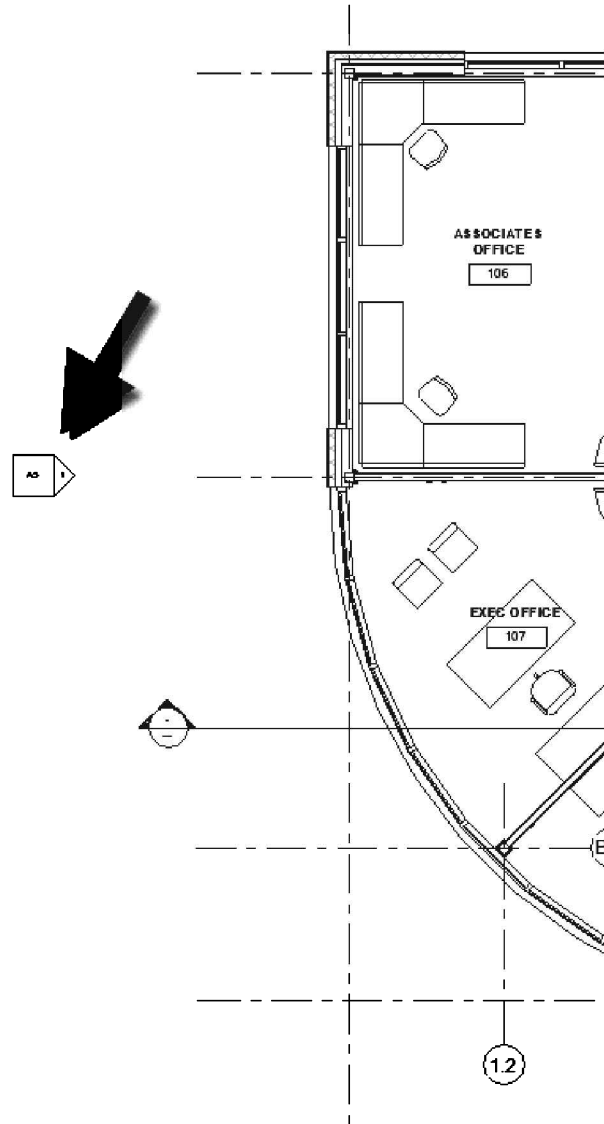

FIGURE 16-1.9
23. Switch to **Level 1** (see Figure 16-1.9).
Notice in Figure 16-1.9 that the number A5 represents the sheet number that the drawing can be found on. The number 1 (one) is the drawing number to look for on sheet A5.
You can also see in Figure 16-1.9 that the reference bubbles on the building sections are filled in.